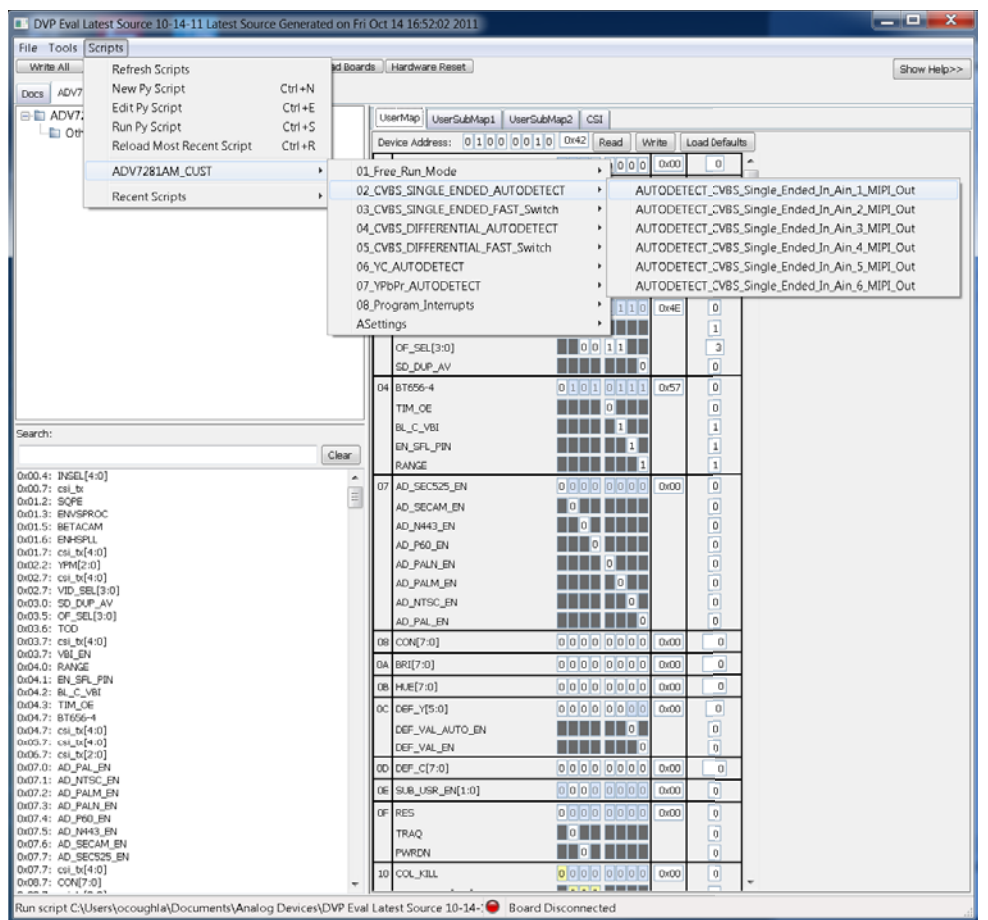

Figure 8. Running ADV7281-M Script on DVP Eval Software
5. Select **Scripts > ADV7281AM_CUST** to select and run a script to configure the evaluation board (see Figure 8).
6. To monitor the registers of the **ADV7281A-M**, click on the associated device tab within the **DVP Eval Software** (see Figure 8).